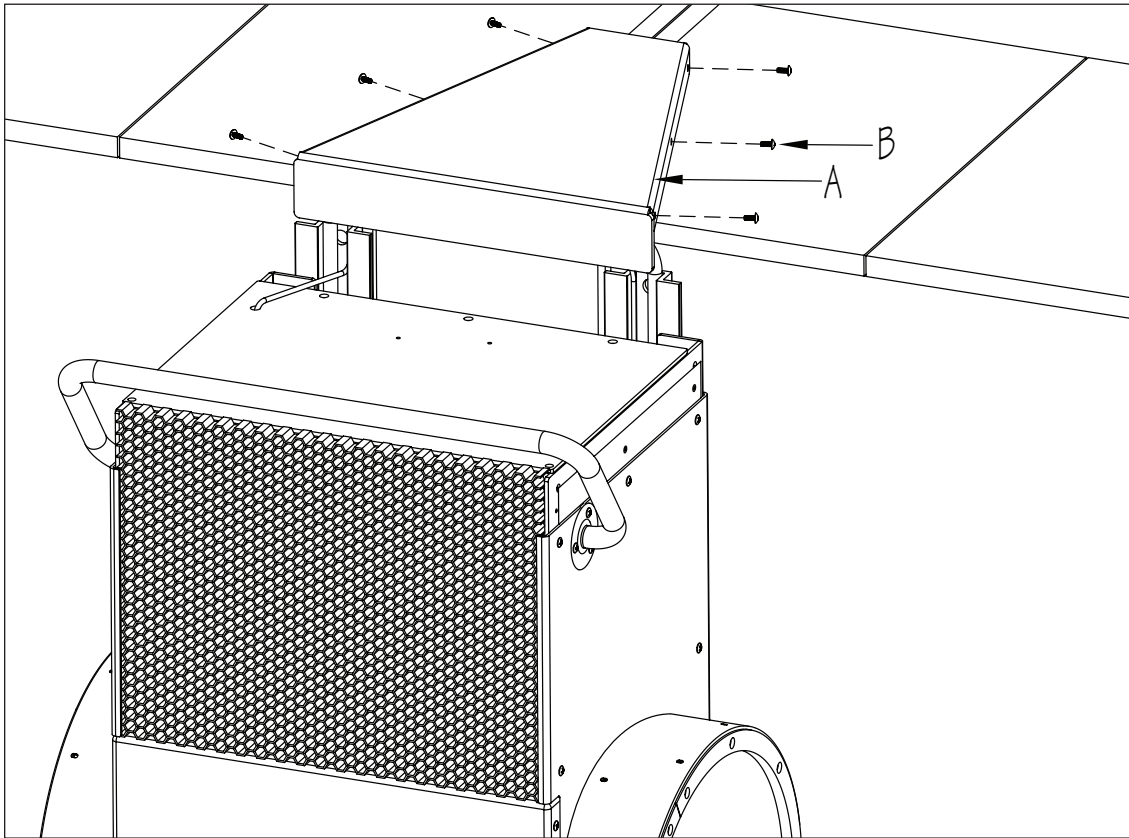

Fig. 24
5. Attach the Deck Plate Cover (A) to the Deck Plate using the 1/2" (13mm) Phillips Truss Head Screws (B) (Fig. 24).